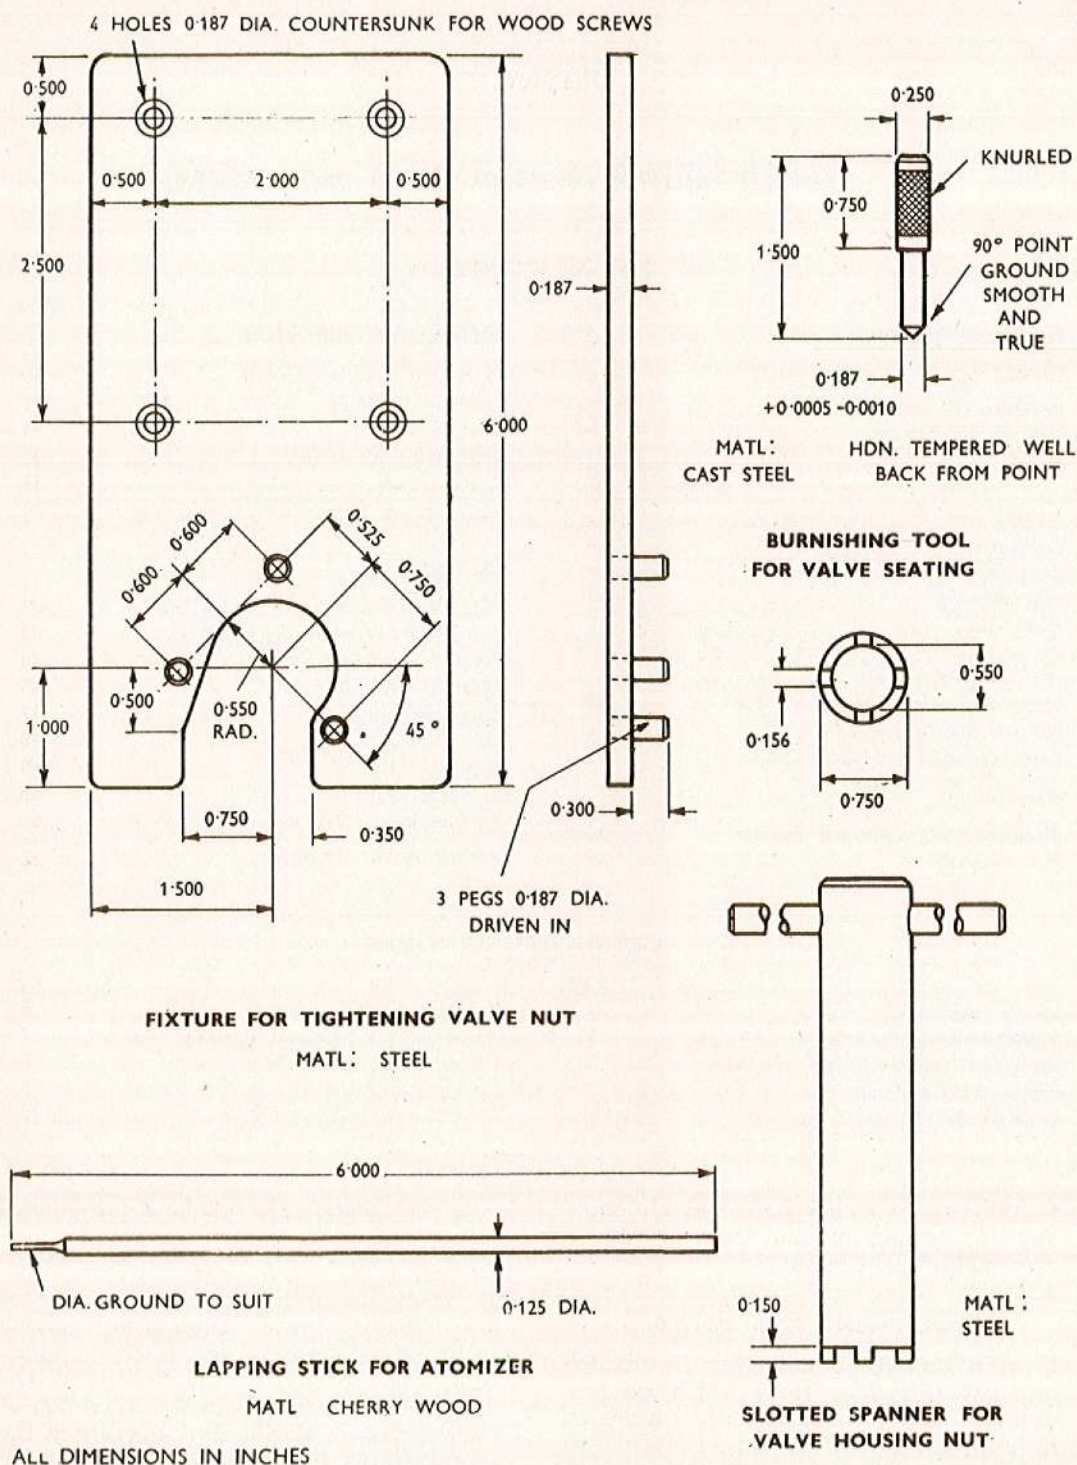
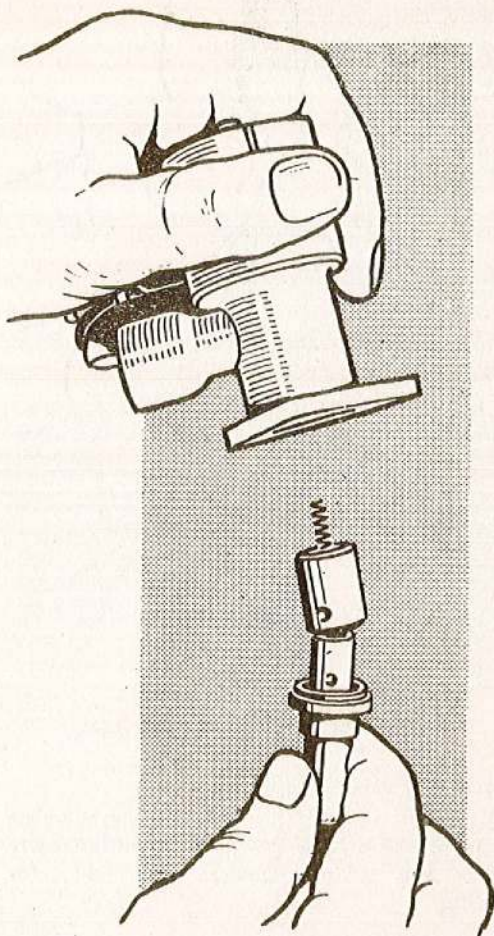

FIG. 1. LOCALLY MADE TOOLS
Fig. 7. Assembling the valve and armature
5. Equipment and tools to be manufactured are detailed in fig. 1 and a list of these is as follows:—
12. Fit the valve assembly to the fixture shown in fig. 1, and, with the atomizer end uppermost, remove the spring locking ring and sleeve nut, lift off the atomizer, the spring, and lock ring, and using the spanner shown in fig. 1, unscrew the slotted nut. The valve assembly can then be removed in the following order:—joint washer, valve housing, pressure filled joint ring, valve needle, and armature with loose transverse pin, and finally the armature spring.
26. Connect the valve needle to the armature by means of the transverse pin. Fit the spring in the end of the armature, and holding the solenoid casing with the open end downwards, insert the assembly into the casing (*fig. 7*). Turn the casing over to bring the open end uppermost and fit to the assembling fixture (*fig. 1*). Add a pressure filled joint ring followed by the valve housing, taking care to locate it on the needle without damage to either part
36. When a new valve needle or valve housing is fitted, it may be necessary to use the burnishing tool shown in fig. 1. This should be rotated backwards and forwards on the valve seating using a suitable lubricant such as Hydraulic Fluid to specification DTD.585. This should be sufficient to ensure that the valve needle fits correctly when closed.